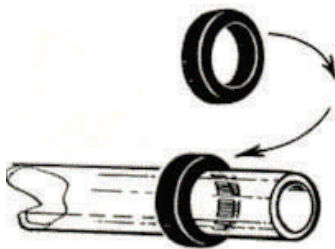
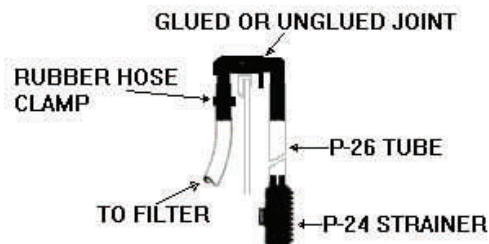

FIG. 9
FIG 10
5. You should have two-four foot section of the XL-11 hoses to make the intake and exhaust hoses. Place one of the P-6 rubber hose clamps on each end of the hoses. (fig 9) Slip one end of the hose over the in port on the main casting. Note: OUT & IN ports are marked on motor. The **GLUED** XL-12 “U”-tubes now connects to the other end of the **INTAKE** hose. Take the other hose and place one of the P-6 hose clamps on one end, then slip XL-15 plastic hose clamp over the opposite end. Place one end of the hose over the out port on the main casting. The **UN-GLUED** XL-12 “U” tube now connects to the other end of the **EXHAUST** hose (fig. 10)